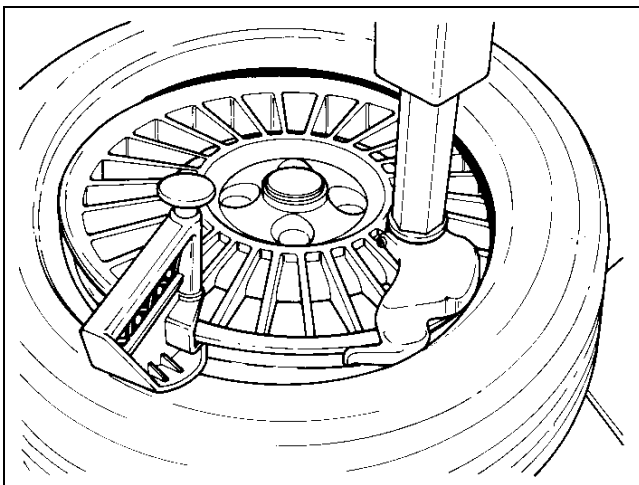

Fig.21
C. Mount the upper bead following the directions in section B. With low profile tires the bead depressor tool (option #4003444 Fig.21) can help to ease the mounting of the top bead.